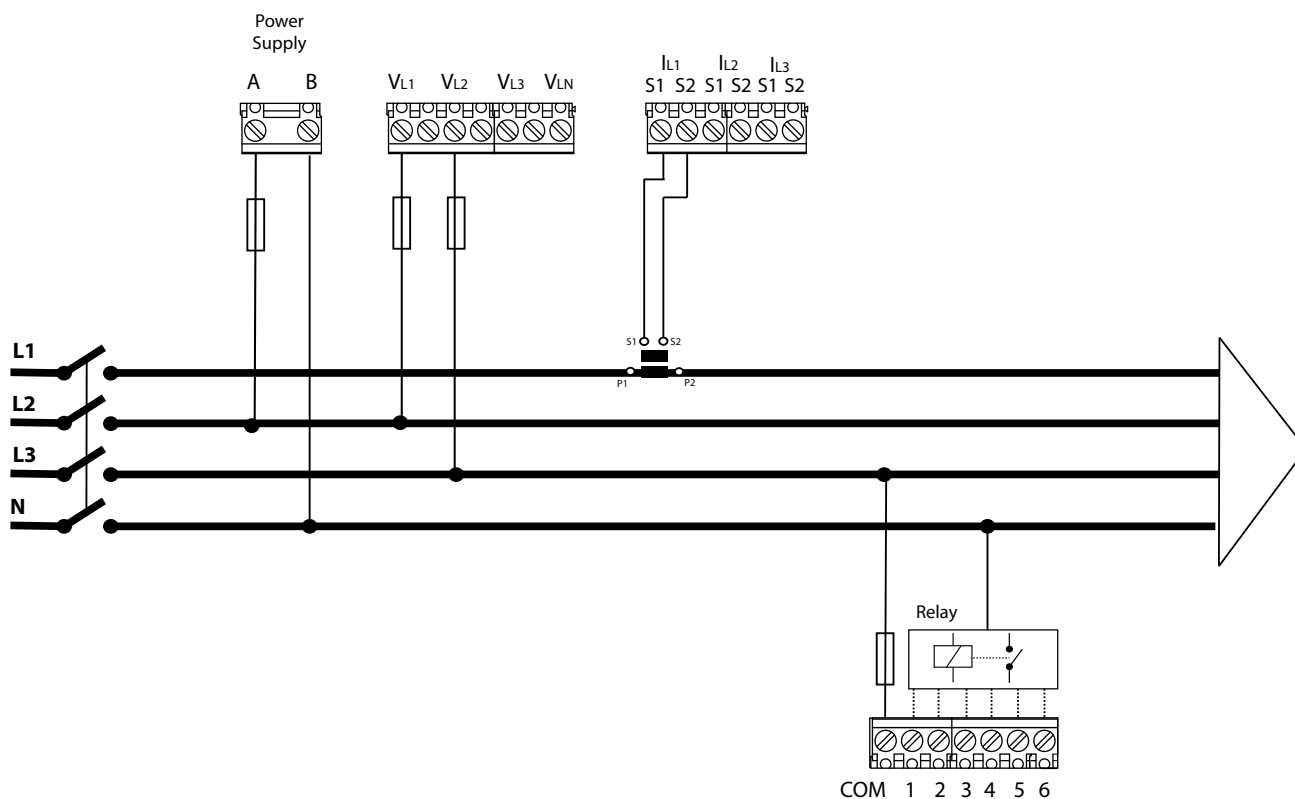

Figure 7: 2 voltages and 1 current, Controller MASTER control VAR 6 model.
**NB:** The auxiliary power supply can be connected Phase-Neutral (as in Figure 7) or Phase-Phase, as long as the power supply range is not exceeded (see “6.- TECHNICAL FEATURES”).